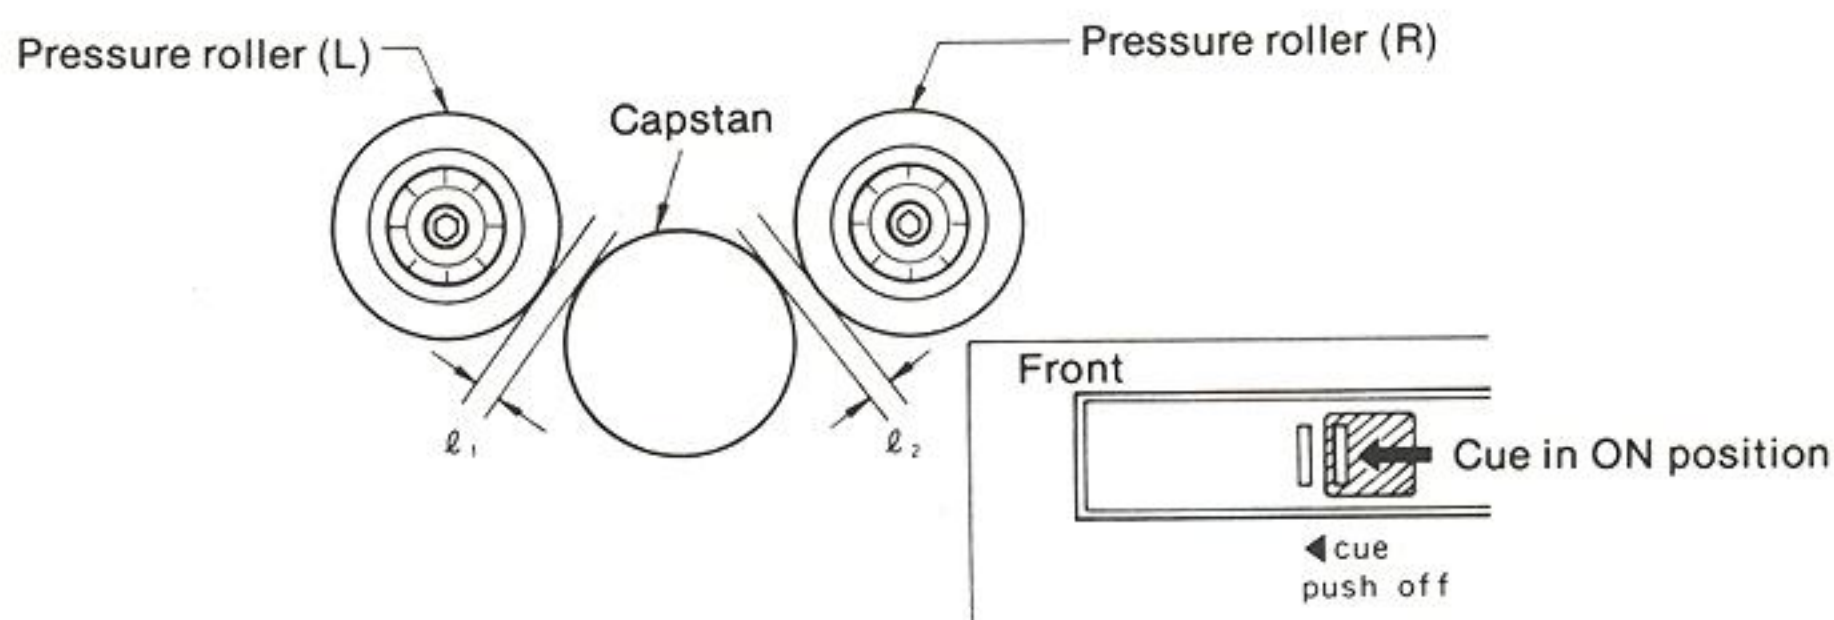

Fig. 4
(4) Dual trace oscilloscope
(5) Digital electronic counter
- a. Number of figure: 4 (decimal system)
(6) Wow meter
Checking method (See fig. 4)